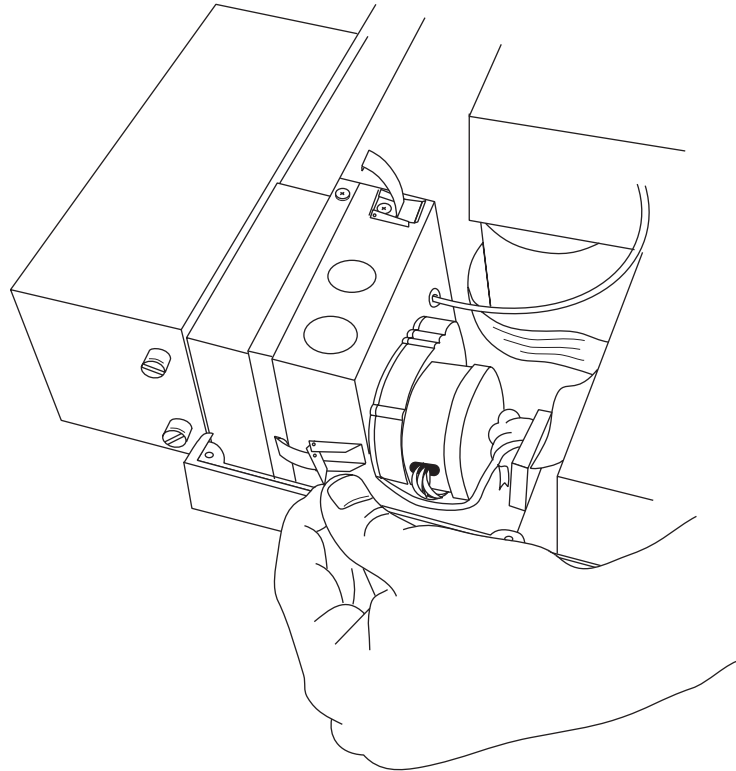

Figure 10: Light Source Assembly Spring Clamps
- 8) For the THERMOmax, unfasten the spring-loaded holding clasps on the top and left side of the light chamber assembly as shown in Figure 10.